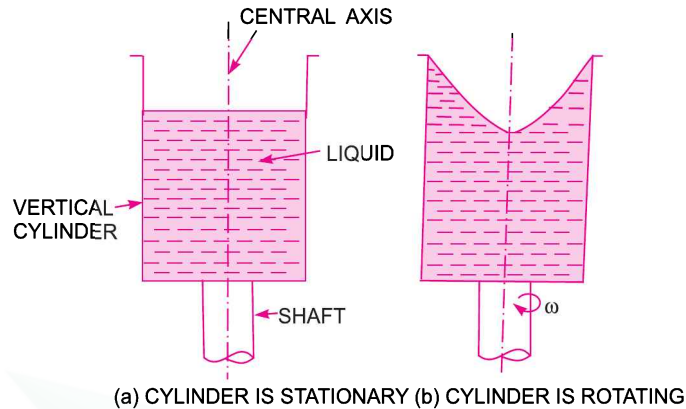

Fig. 5.12 Forced vortex flow.
1. A vertical cylinder containing liquid which is rotated about its central axis with a constant angular velocity  $\omega$ , as shown in Fig. 5.12.